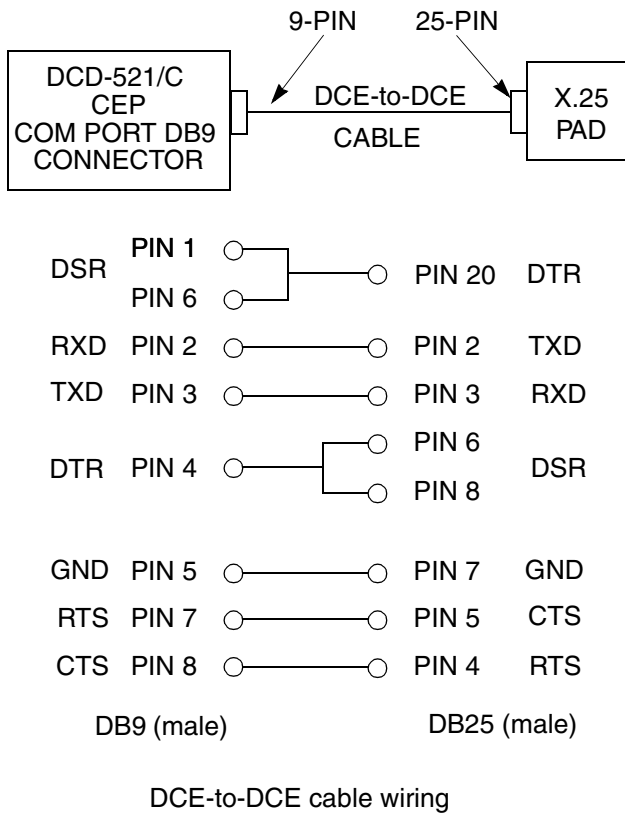

Figure 14. Data Communications Connection
3.18 Use RS-232 cable (user-supplied) with a male DB9 connector to connect from the CEP (refer to Table F and Figure 14 for the DB9 connector pin assignments) to the communication circuit.